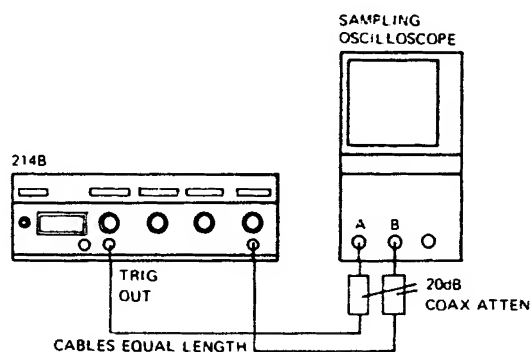

Figure 4-2.
1. Connect equipment as shown in Figure 4-2 and set 214B controls as follows: